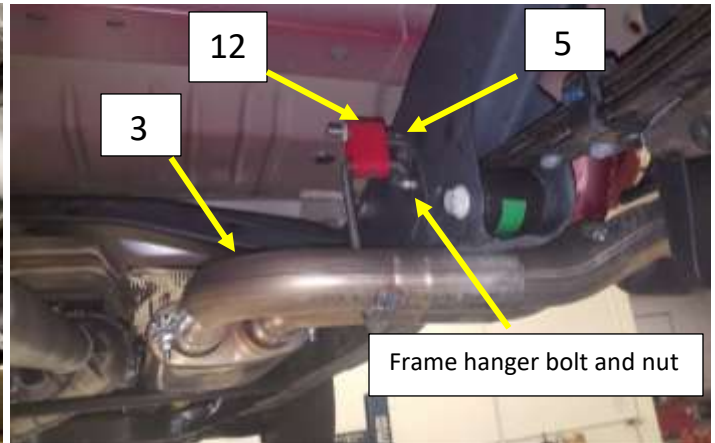

Figure 4
10. Install the red exhaust isolator **(12)** on to the frame hanger assembly **(5)**. Install the frame hanger assembly and red isolator on to the tailpipe hanger rod, as shown in Figure 4.
14. The bolt should extend through the frame rail and into the center hole of the frame hanger plate. Install a 3/8 flat washer, split washer, and the 3/8 nut. **Fig. 4**